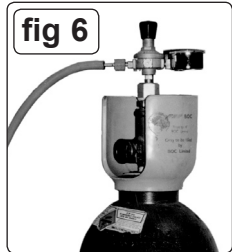

fig 6
- 3.7.2 Fit the gas regulator onto the Bull Nose Adaptor (see fig.6).